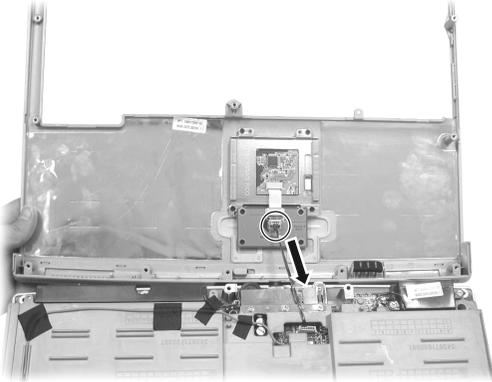

Figure 2-24 Remove the base unit cover
4. Lift up the cover Assy and disconnect the touch pad cord. (Figure 2-24)